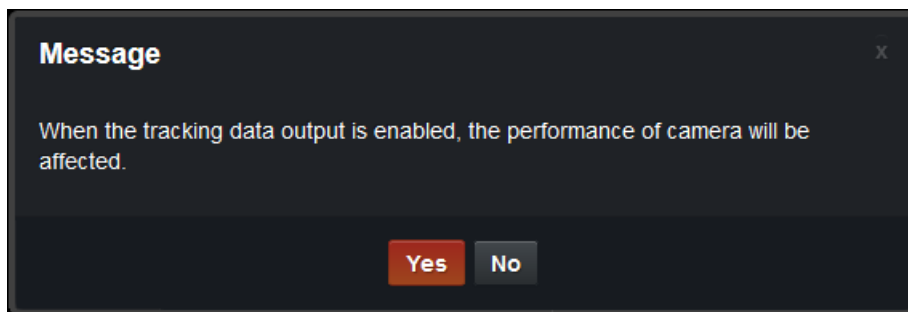

Figure 30 - Warning Message about Tracking Data and Camera Performance
- › Select the **Enable** check box.A warning message appears (Figure 30).